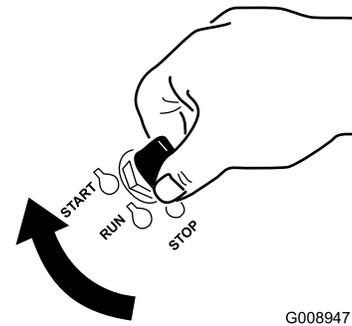

Figure 12
1. Turn the ignition key to the **START** position (Figure 12). When the engine starts, release the key.
6. Turn the ignition key to the START position (Figure 12). When the engine starts, release the key.